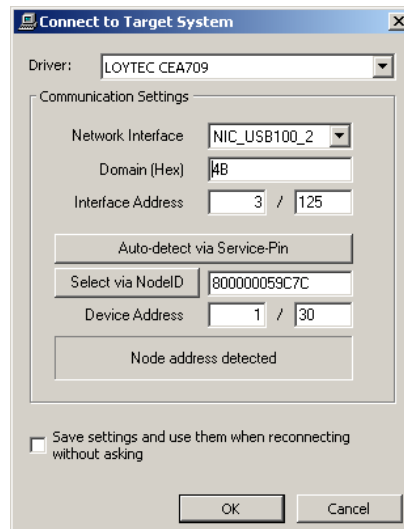

Figure 59: Connect via CEA-709
- **CEA-709:** Select the network interface to use and fill out all other fields, see Figure 59. Alternatively, select the network interface and press Auto-detect via Service-Pin. Then press the service pin on the LINX-110 device. Note that this connection method requires an installed LOYTEC network interface.